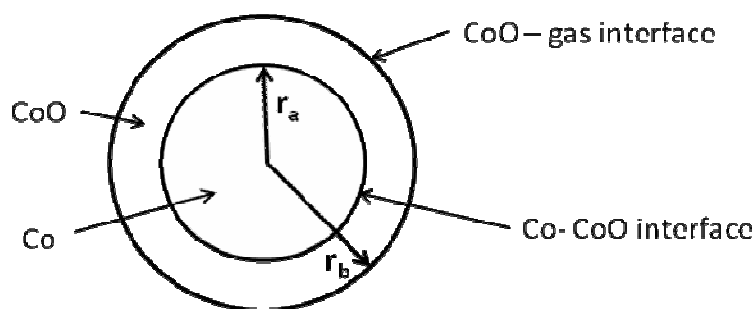

Fig. 2
Solid cobalt oxide (bulk) is formed in the reaction vessel. This causes an irreversible loss of the catalyst's mass. Solid cobalt oxide can also be deposited on the surface of Co(s). In this case the new spherical layer is formed around the surface of the catalyst (see figure 2) and the catalytic activity drops.
Assume now that solid cobalt oxide forms a spherical layer around a nanoparticle of cobalt. In this case the nanoparticle contains both a reactant (Co) and a product (CoO) (Fig. 2).
- 2.8 When spontaneous oxidation of Co begins the radii of two layers in the nanoparticle (Fig. 2) are almost equal, $r_a = r_b = r_0$, and $\Delta_r G^0(1, r_a, r_b) = \Delta_r G^0(1, r_0)$. Assume that $\sigma_{\text{CoO-gas}} = 2\sigma_{\text{CoO-Co}}$. Which plot in the Answer Sheet describes correctly the dependence of $\Delta_r G^0(1, r_0)$ on r_0 ?